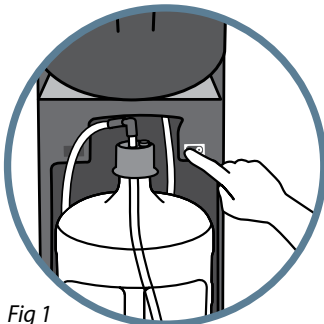

Fig 1
1. Slide the dispenser door up and turn off the hot tank switch (Fig 1). Let the unit stand for one hour before cleaning to allow the hot tank to cool.